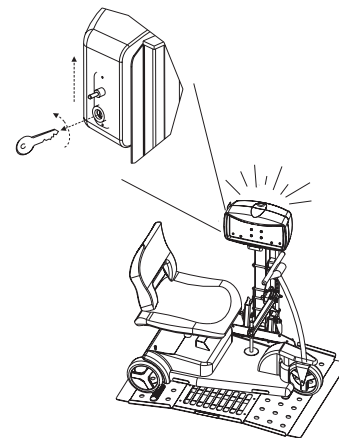

Figure 3-5
3. Remove the key. See Figure 3-5.